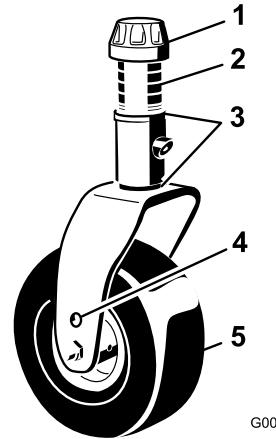

Figure 23
3. Remove the tensioning cap from the castor shaft (Figure 23). and slide the shaft out of the castor arm. Put 2 shims (1/8 inch [3 mm]) onto the castor shaft as originally installed. Slide the appropriate number of 1/2 inch spacers onto the shaft to get the desired height-of-cut.
4. Push the castor shaft through the front castor arm. Install the shims (as originally installed) and the remaining spacers onto the shaft. Install the tensioning cap to secure the assembly (Figure 23).